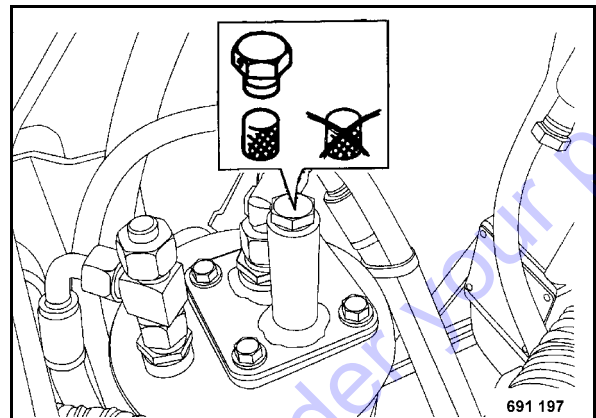

Fig. 74
- Unscrew the plug and take out the breather filter plug (Fig. 74).